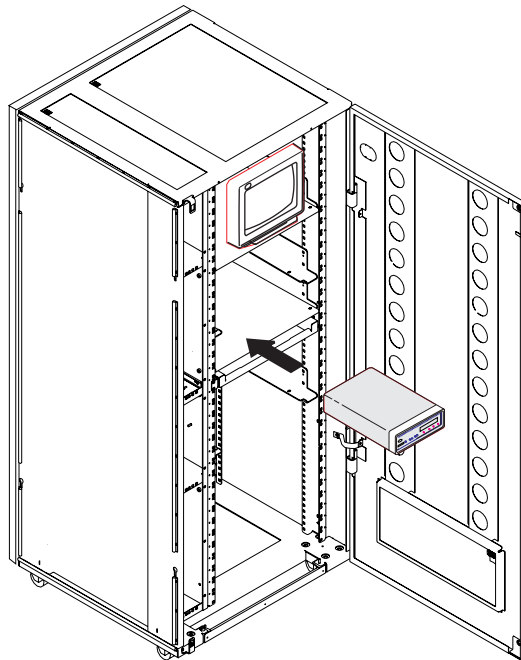

Figure 1-24. Installing the 7858 in the Controller Expansion
3. ____ Slide the 7858 in the controller expansion as shown in Figure 1-24.